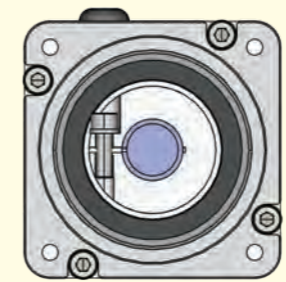
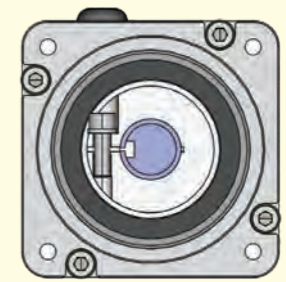

Figure 1 Without Key Groove
Figure 2 With Key Groove
*When a bush is provided, align the position of the slit of the bush with the slit of the input shaft joint as shown in Figure 1. Also, if the motor shaft has a key groove, align the position of the slit of the bush with the key groove as shown in Figure 2.